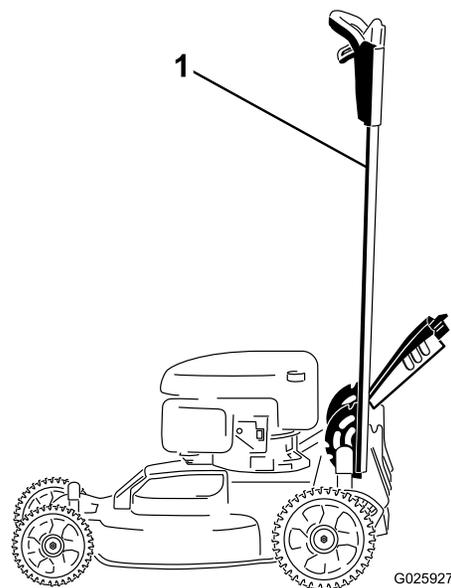

Figure 37
1. Lock the handle in the vertical position (Figure 37); refer to Adjusting the Handle Height (page 12).